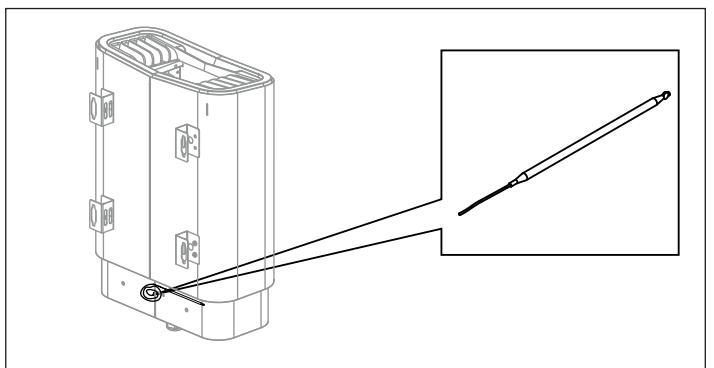
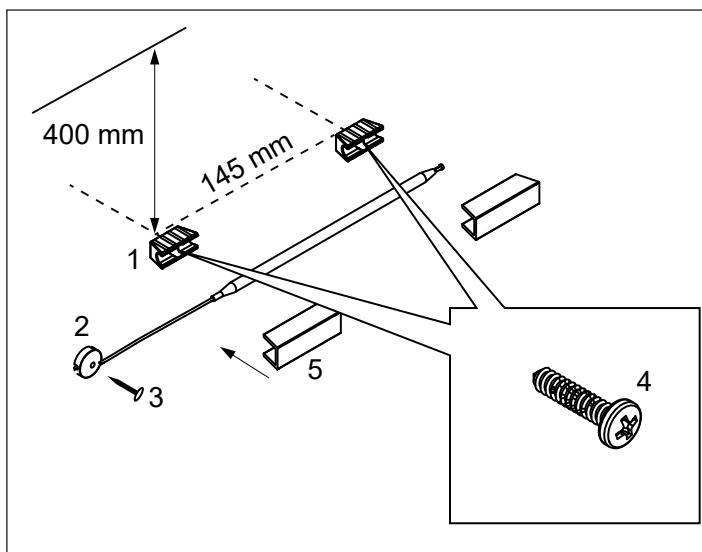

Figure 14: Finding the temperature sensor
Figure 12: Installing the temperature sensor
Install the temperature sensor holders (see (1) in Figure 12) 400 mm below the ceiling and 145 mm between using the two supplied screws (4).
Insert the temperature sensor (located on the back of the heater, see Figure 14) and secure the capillary tube with the clips (2) and the brad nail (3) (see Figure 12).
Contact TylöHelo Customer Service before connecting to voltages or numbers of phases that are not listed in the wiring diagram (see Figure 14).